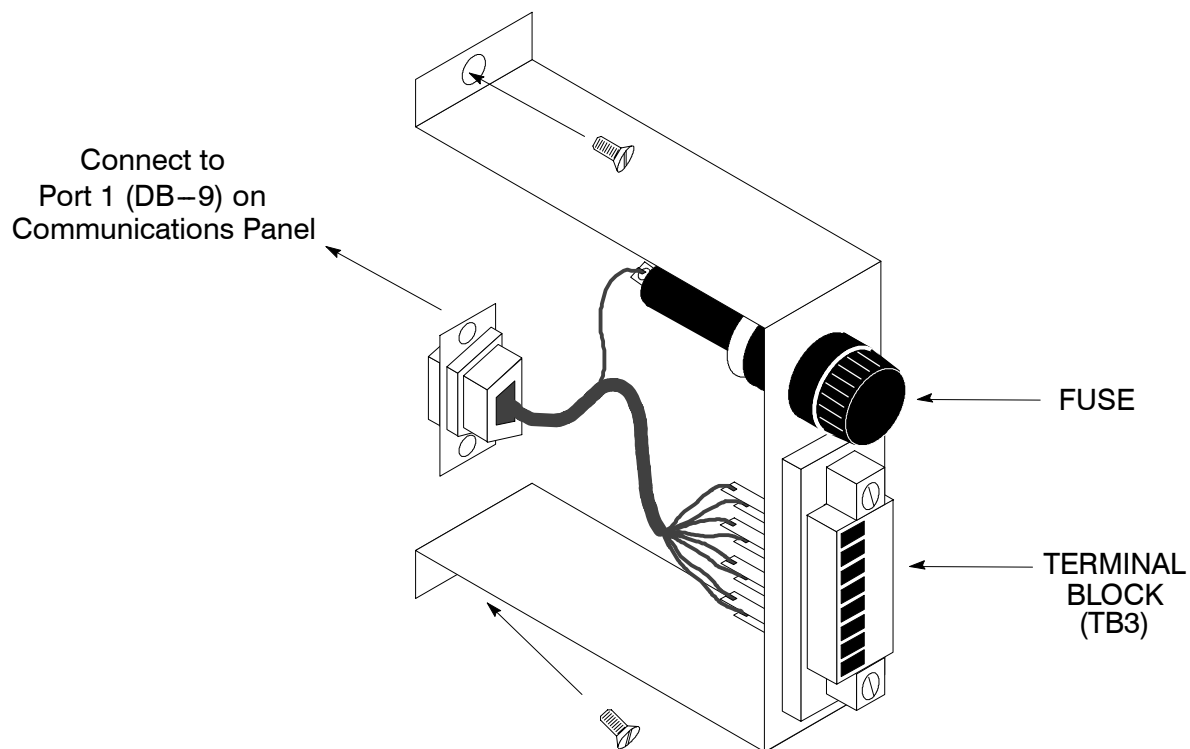
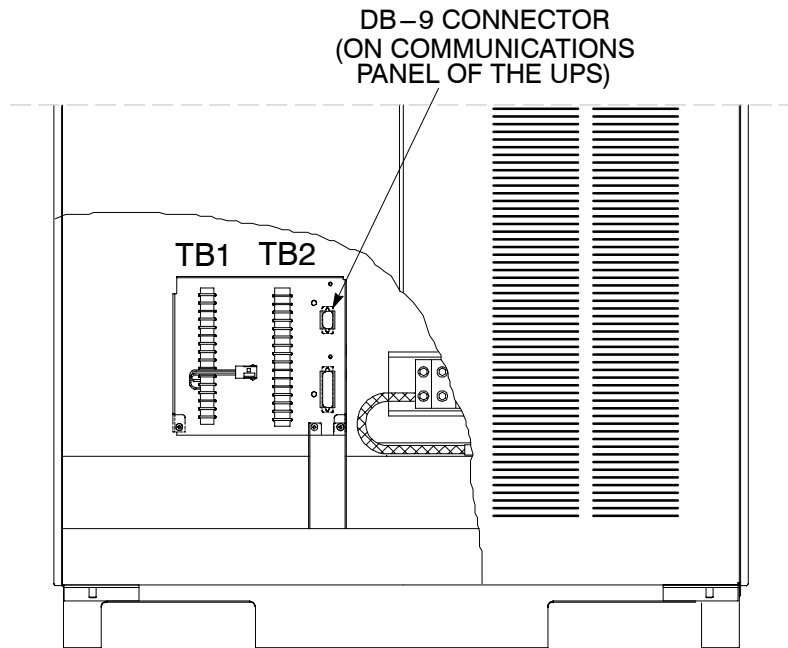

Figure 11. Terminal Block Bracket
Figure 12. Wiring an RIM to the UPS
3. If not already installed, locate the RMP adapter cable assembly (see Figure 11) in the spare parts kit. Mate the DB-9 connector on the back of the terminal block into the DB-9 connector on the Communications Panel of the UPS (see Figure 12). Use two screws from the spare parts kit to secure the terminal block bracket to the Communications Panel.